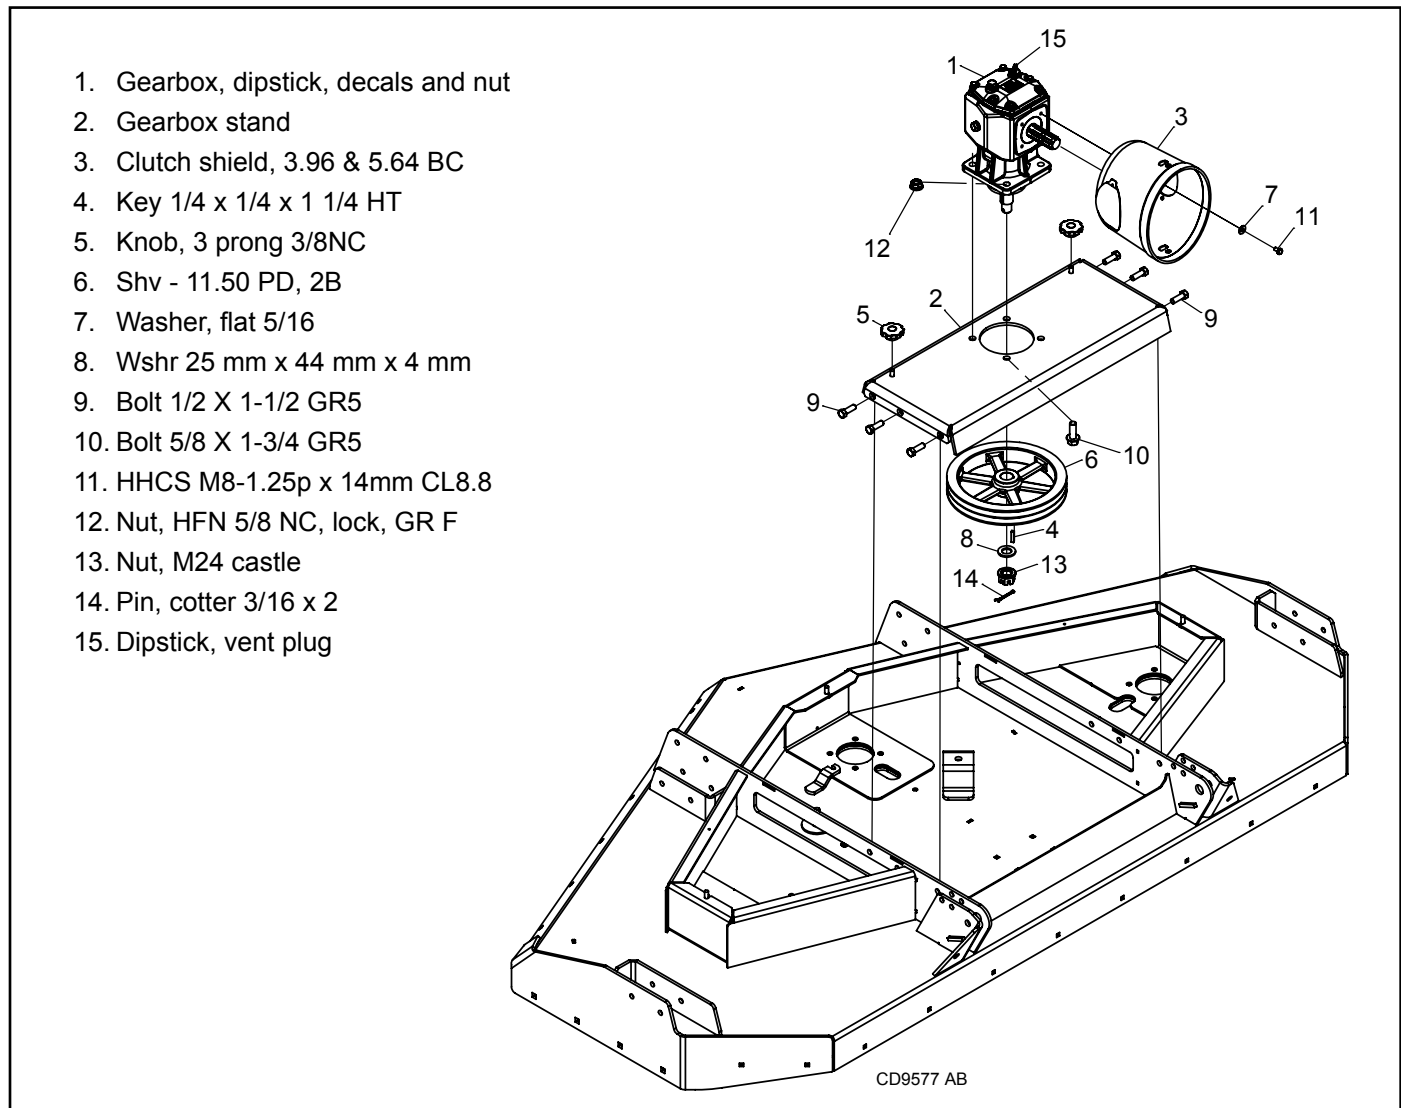

Figure 28. Gearbox Stand Assembly
1. Disconnect and remove the driveline from the gearbox. Remove the clutch shield (3) and M8 bolts (11) and 5/16 washers (7). See Figure 28.
(Figure 28)
1. Disconnect and remove the driveline from the gearbox (1).
2. Remove vent plug (15) and siphon gear lube from housing through this opening. See Figure 28.
4. Remove gearbox stand (2) from mower deck rails by removing six cap screws (9). See Figure 28.
5. Remove cotter pin (14), castle nut (13), and hardware and washer from output shaft of gearbox. See Figure 28.
6. Remove sheave (6) from gearbox.
7. Remove four 5/8 NC bolts (10) and 5/8 NC nuts (12) that attach gearbox to gearbox stand and remove gearbox.
4. Check level after waiting five minutes to permit lube to work through bearings. Add lube, if necessary, until gearbox dipstick shows full. The oil should be between the two lines on the dipstick. Replace driveline shield using M8 screw (11) and washer (7). See Figure 28.